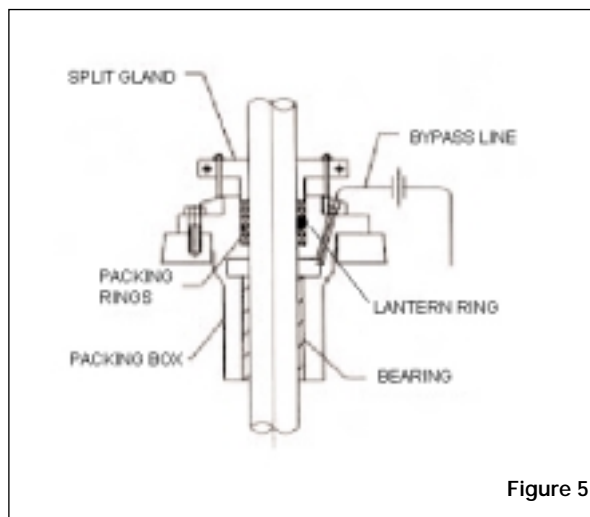

Figure 5
2. If the stuffing box is assembled to the head, remove it and all attached piping. See Figure 5 for the stuffing box provided for the A-C Fire Pump being assembled.
Assemble stuffing box in accordance with Figure 5, below.